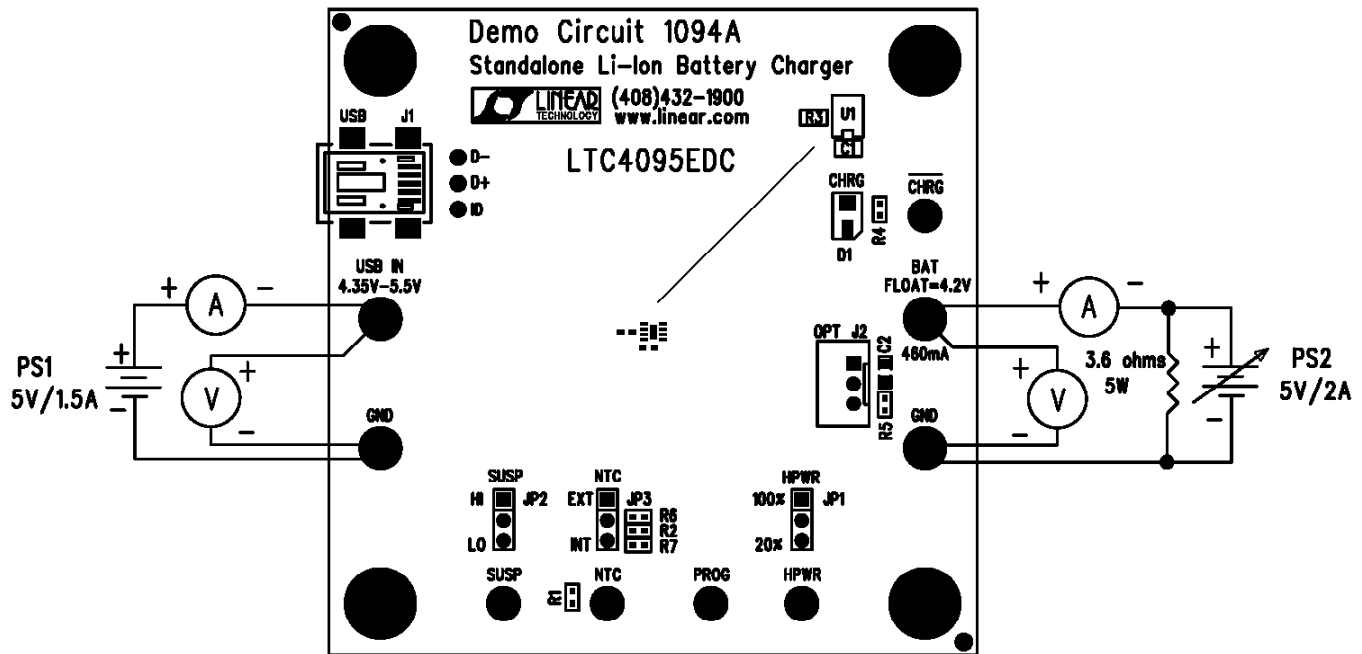

Figure 1. Proper Measurement Equipment Setup
Demonstration circuit 1094 is easy to set up to evaluate the performance of the LTC4095. The charger may be evaluated using an actual Li-Ion battery, a bi-polar supply, or a battery simulator. A battery simulator consists of an adjustable supply with a load resistor across the supply output. A 3.6 Ω 5W resistor value will provide an 800mA load at 2.9V. This will allow the power supply to sink and source current similar to a battery, but allows the battery voltage to be changed quickly or remain at the same value indefinitely. Refer to Figure 1 for proper measurement equipment setup and follow the procedure below:
2. With the power supplies adjusted to 0V, connect the USB IN power supply and Battery or Battery Simulator with series ammeters, as illustrated in Figure 1. An ammeter or a 100m Ω current sense resistor may be used to measure the battery charge current.
3. Connect voltmeters, as shown in Figure 1, across the USB IN and GND terminals, and across the BAT and GND terminals. These voltmeters may also be used to measure the voltage on the PROG terminal.